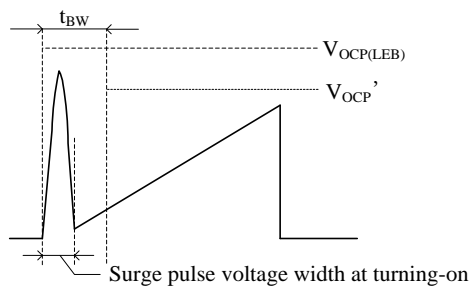
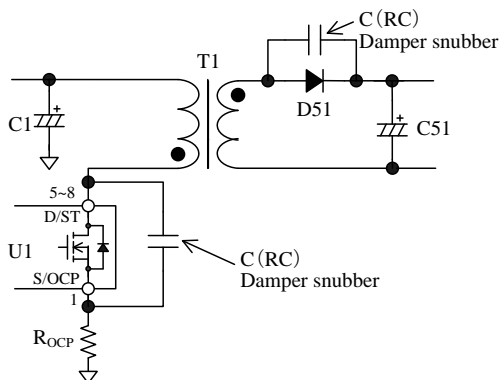

Figure 9-9 S/OCP pin voltage
Figure 9-10 Damper snubber
During Leading Edge Blanking Time, the OCP threshold voltage becomes  $V_{OCP(LEB)} = 1.69\text{ V}$  which is higher than the normal OCP threshold voltage as shown in Figure 9-9. Changing to this threshold voltage prevents the IC from responding to the surge voltage in turning-on the power MOSFET. This function operates as protection at the condition such as output windings shorted or unusual withstand voltage of secondary-side rectifier diodes.
When the power MOSFET turns on, the surge voltage width of the S/OCP pin should be less than  $t_{BW}$ , as shown in Figure 9-9. In order to prevent surge voltage, pay extra attention to  $R_{OCP}$  trace layout (refer to Section 10.2). In addition, if a C (RC) damper snubber of Figure 9-10 is used, reduce the capacitor value of damper snubber.